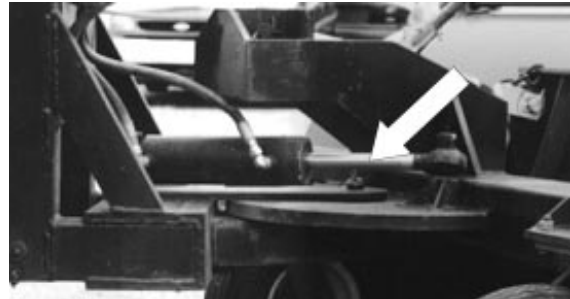

Figure 3
- b. Place the swing plate on top of the swing frame and align the holes. Insert a bushing and 3/4 x 3 in. cap screw; secure with a 3/4 in. lock washer and nut (figure 3).